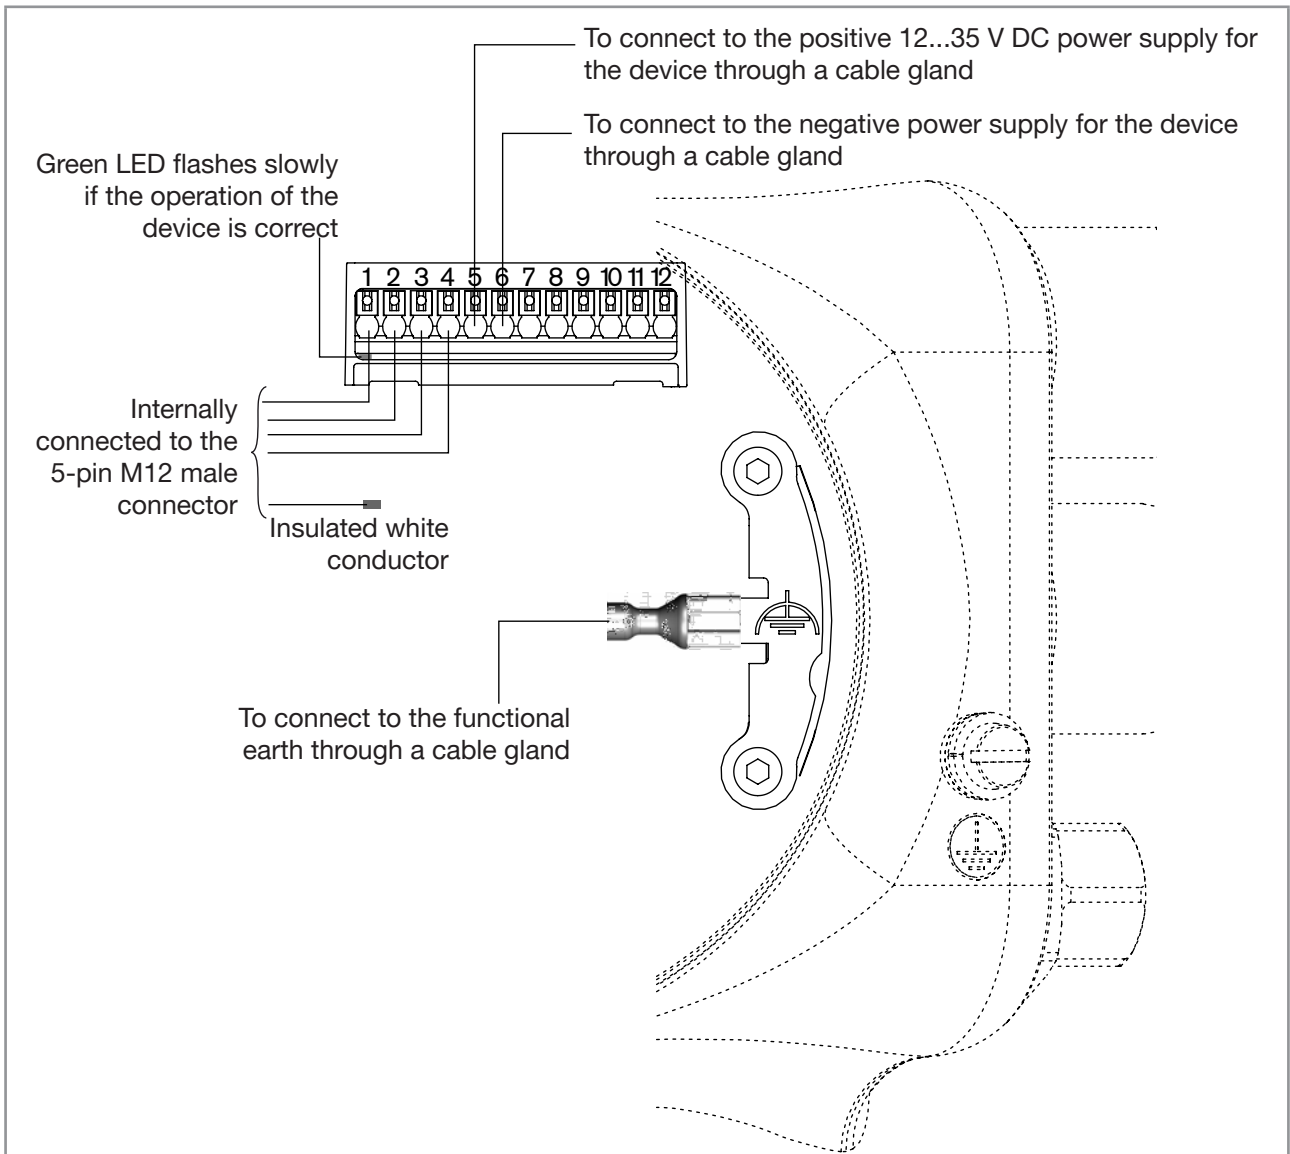

Figure 32: Connecting the 12...35 V DC power supply through the M20x1.5 cable glands
- either to the functional earth plate in the transmitter housing (see Figure 32 in chapter 8.13),
3. Connect the power supply as shown in Figure 32.